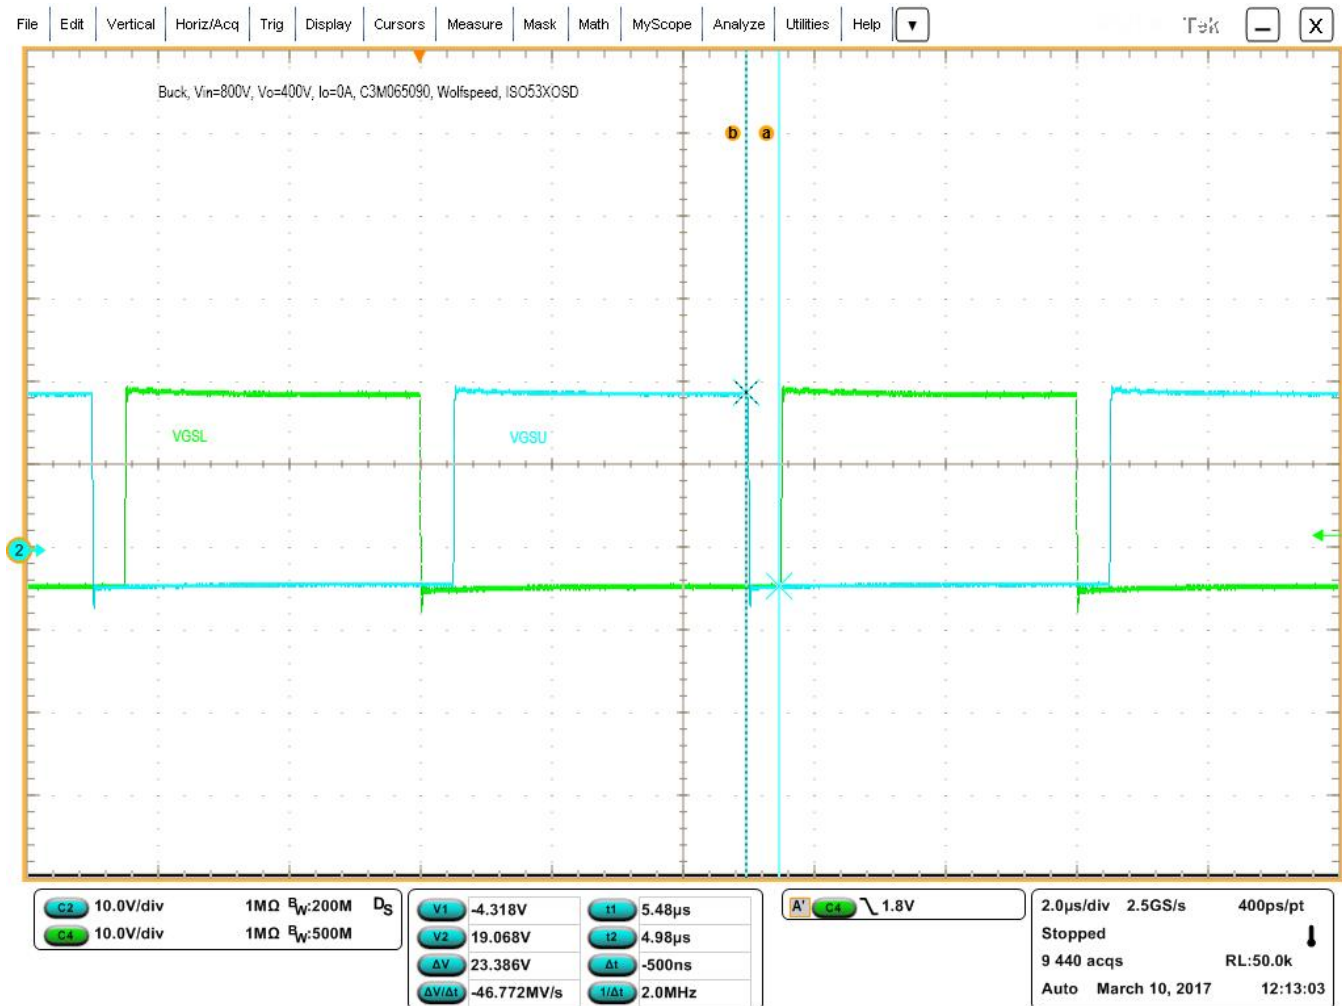

Figure 6. Gate-Source Driver Voltage
6. Verify that gate voltages of the lower and upper FETs are similar to that shown in Figure 6.